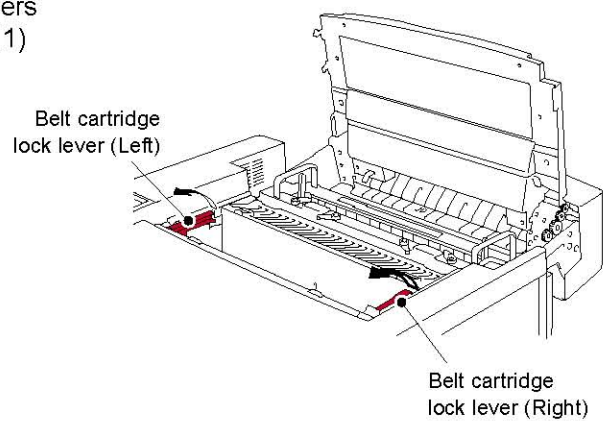

Fig. 6-12
- (5) Prepare a new belt cartridge.
- (6) Remove the protective sheet from a new OPC belt cartridge, and then pull and remove the tension release pins from both sides (left & right). (Fig.6-12)